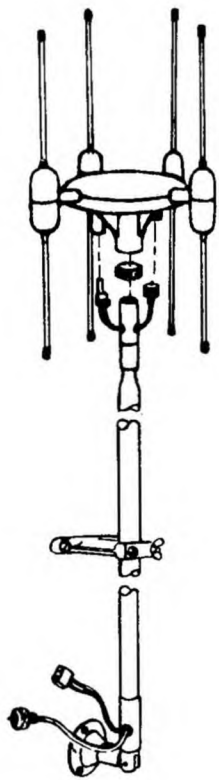

FIG 1
1. Attach the side and swivel mounting brackets to the vessel. (See Figure 1).
2. Install the eight (8) dipole elements in the sockets on the antenna assembly as indicated in Figure 1. Tighten securely.